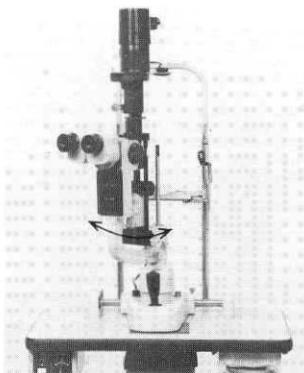

Fig. 25
- Tighten the slit lamp arm fixing knob⑯ and rotate the slit lamp arm and microscope arm together around the upright post (see Fig. 25), and.